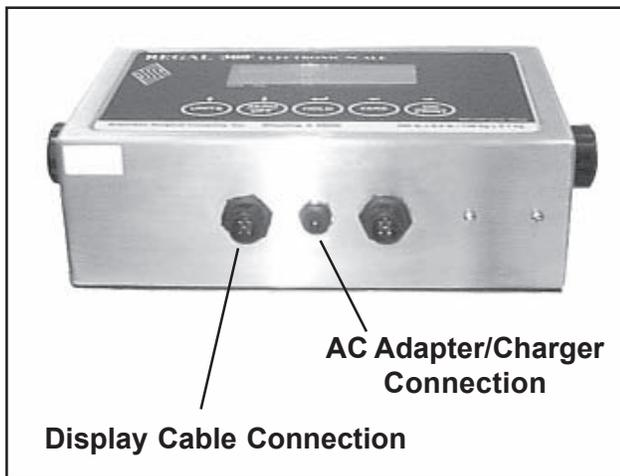

Figure 7. Bottom of Display Console
4. Temporarily, plug the connector on the display cable into its terminal on the bottom of the display console (Figure 7).
13. Plug the display cable into the terminal under the display console (Figure 7). **Note:** The display cable must pass *under* the platform frame.
7. Plug the display cable into the terminal under the console (Figure 7). **Note:** The display cable must pass *under* the platform frame.
1. Plug the console AC adapter/charger wire into the terminal under the display console (Figures 7 and 15).